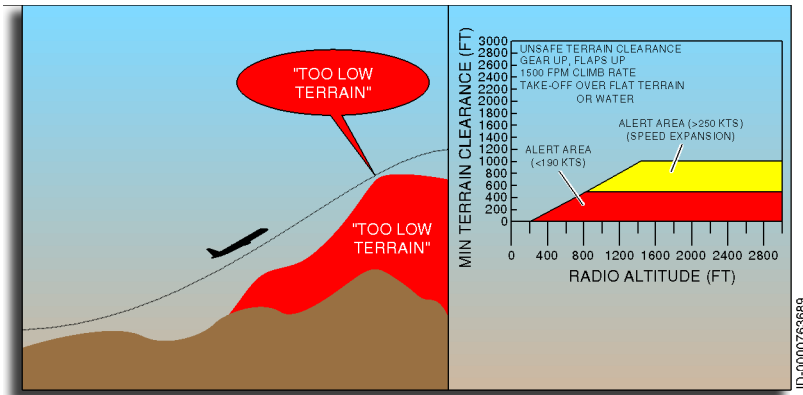

Figure 20-10
- Mode 4C, shown in Figure 20-10, is active during the takeoff POF with either gear or flaps not in landing configuration.
If the aircraft radio altitude decrease to the value of the MTC with gear or flaps up, the visual EGPWS **CAUTION** is annunciated, and the voice aural is **"TOO LOW TERRAIN."** Mode 4C is shown in Figure 20-10.